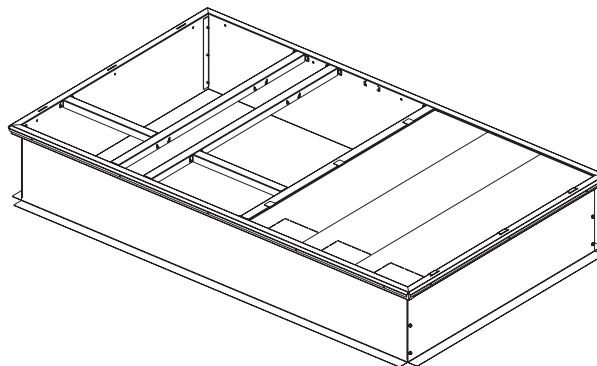

Figure 11. Step four
7. Insert the three (3) insulation supports (1100 - 2418) between the left end and the closest long duct support, being sure to insert the tabs into the slots in the top of the end piece. See Figure 11, p. 8.